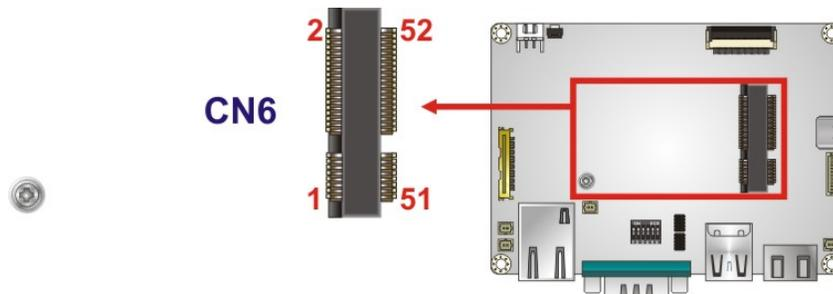

Figure 3-11: PCIe Mini Card Slot Location
- CN Location:** See **Figure 3-11**